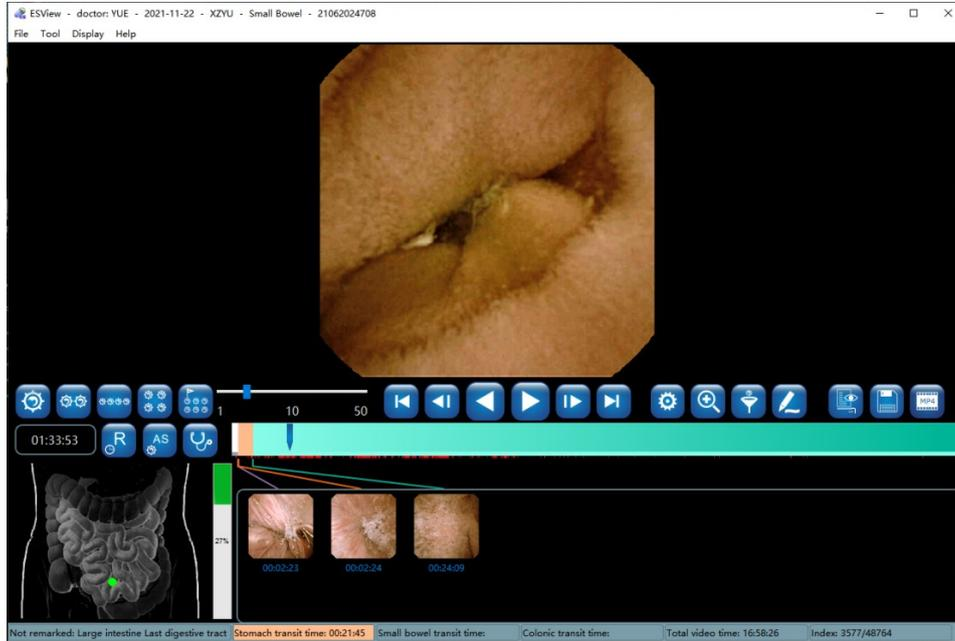

Figure 4-46: NaviCam ProScan Total Images Mode
- When the NaviCam ProScan icon is blue, the images of suspected positive lesions are marked with red on the image color band, and the "First esophagus image", "First stomach image" and "First small bowel image" images are displayed in the image capture area. Mark position and segment color on the image ribbon, as shown in Figure 4-46.